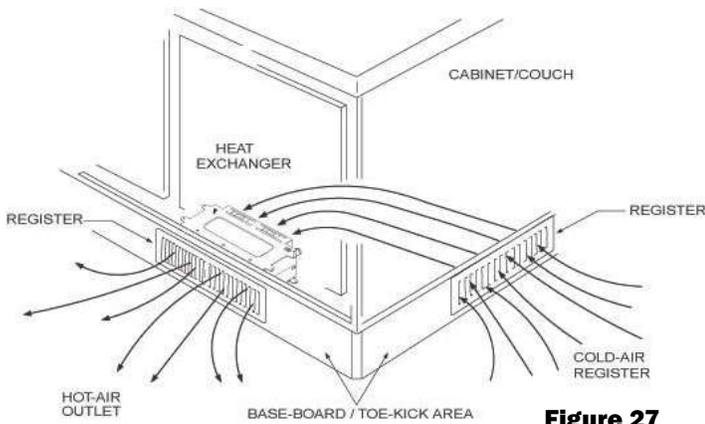

Figure 27
1. Cut out a 2.5" H x 10" W (7cm x 26cm) opening for each heat exchanger outlet and cold-air return grate as shown in Figure 27.